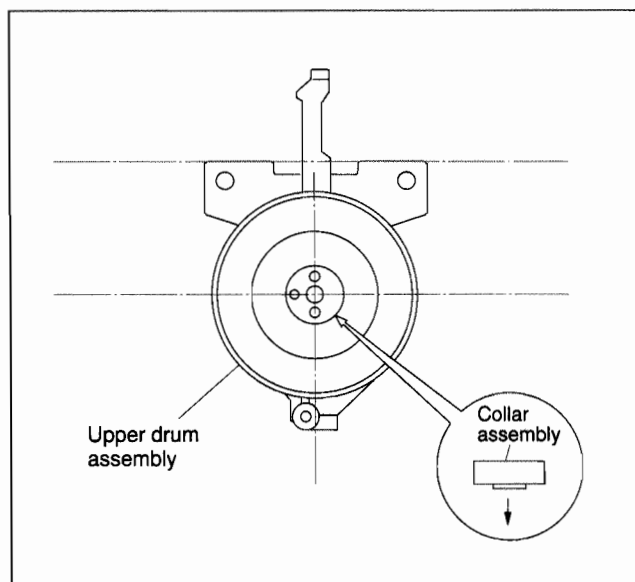

Fig. 2-2-46
- (3) Install the cap to the upper drum assembly.
- (4) Position the collar assembly as indicated in Fig.2-2-46 while controlling its up-down movement.